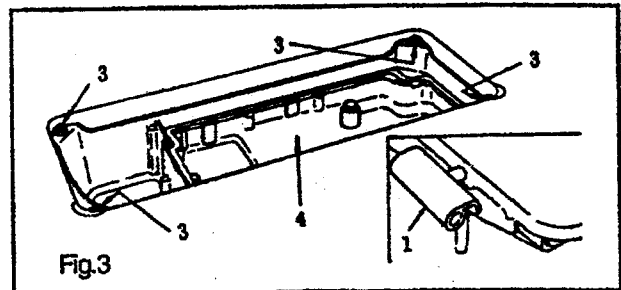

Fig.3
- 3) Fit hinge ① into the opening in the machine bed, and fit the machine head to table rubber hinge ② before placing the machine head on cushions ③ on the four corners. (Fig.3,4)